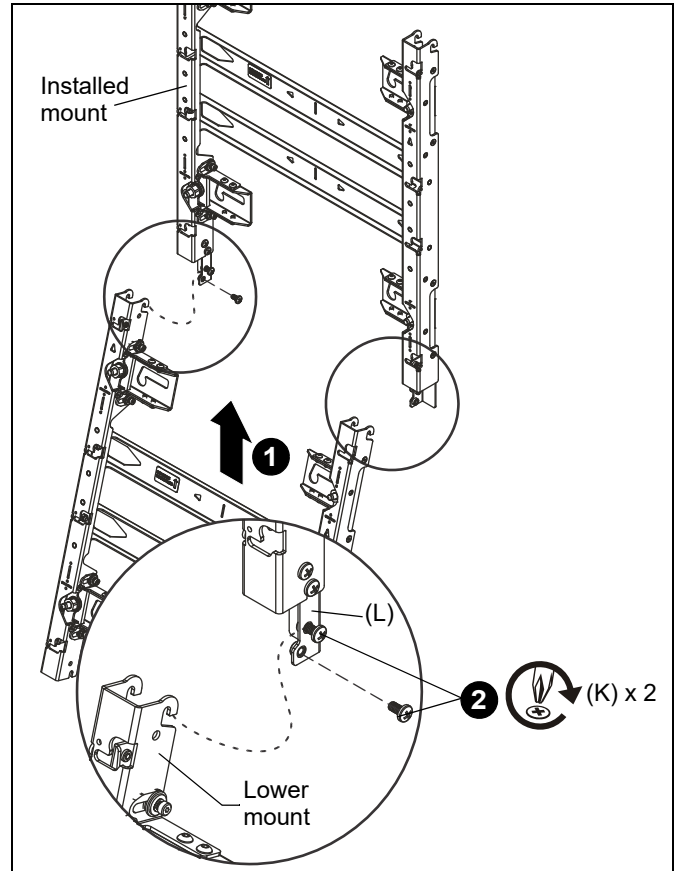

Figure 19
1. Hang the lower mount on the partially installed Phillips head screws (K) in the vertical connectors (L). (See Figure 19)
2. Tighten both lower screws (K) on both vertical connectors (L). (See Figure 19)